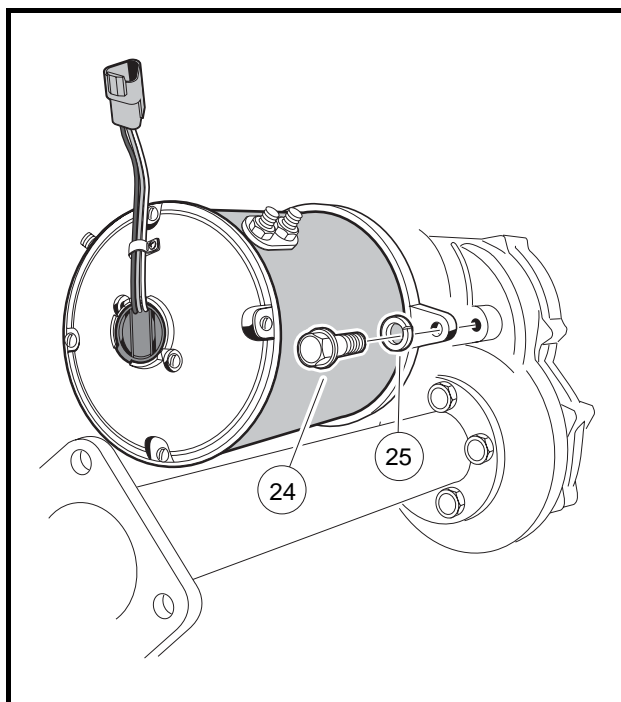

Figure 16-17 Motor Installation
- 4.7. Tighten the bolt (24) inserted through the tab to 155 in-lb (17.5 N·m) (**Figure 16-17, Page 16-14**).